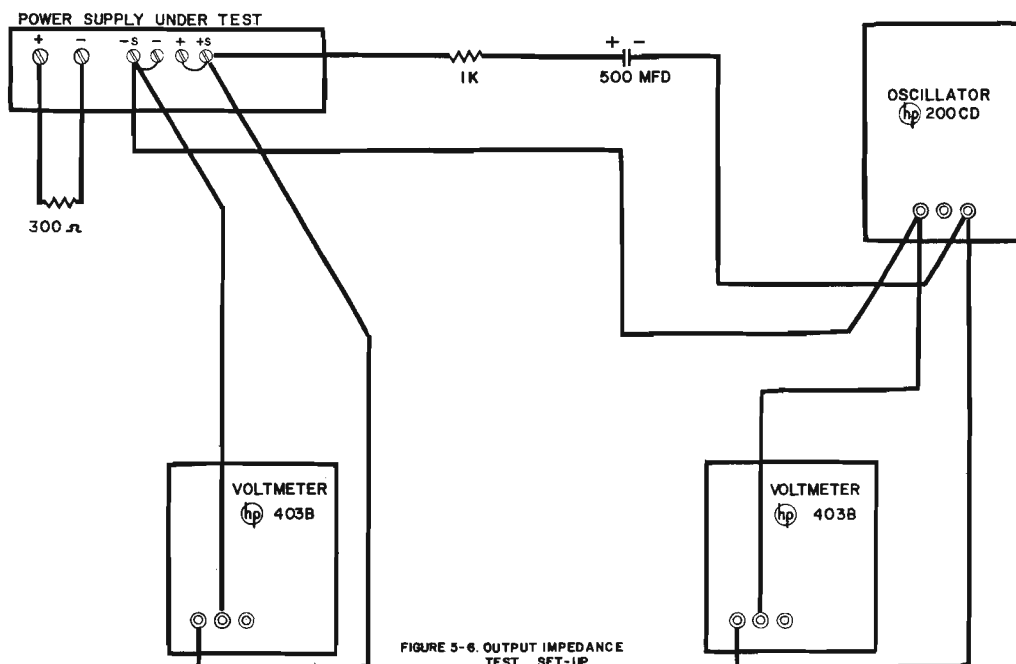

FIGURE 5-6. OUTPUT IMPEDANCE TEST SET-UP
- a. Connect test setup shown in figure 5-6.